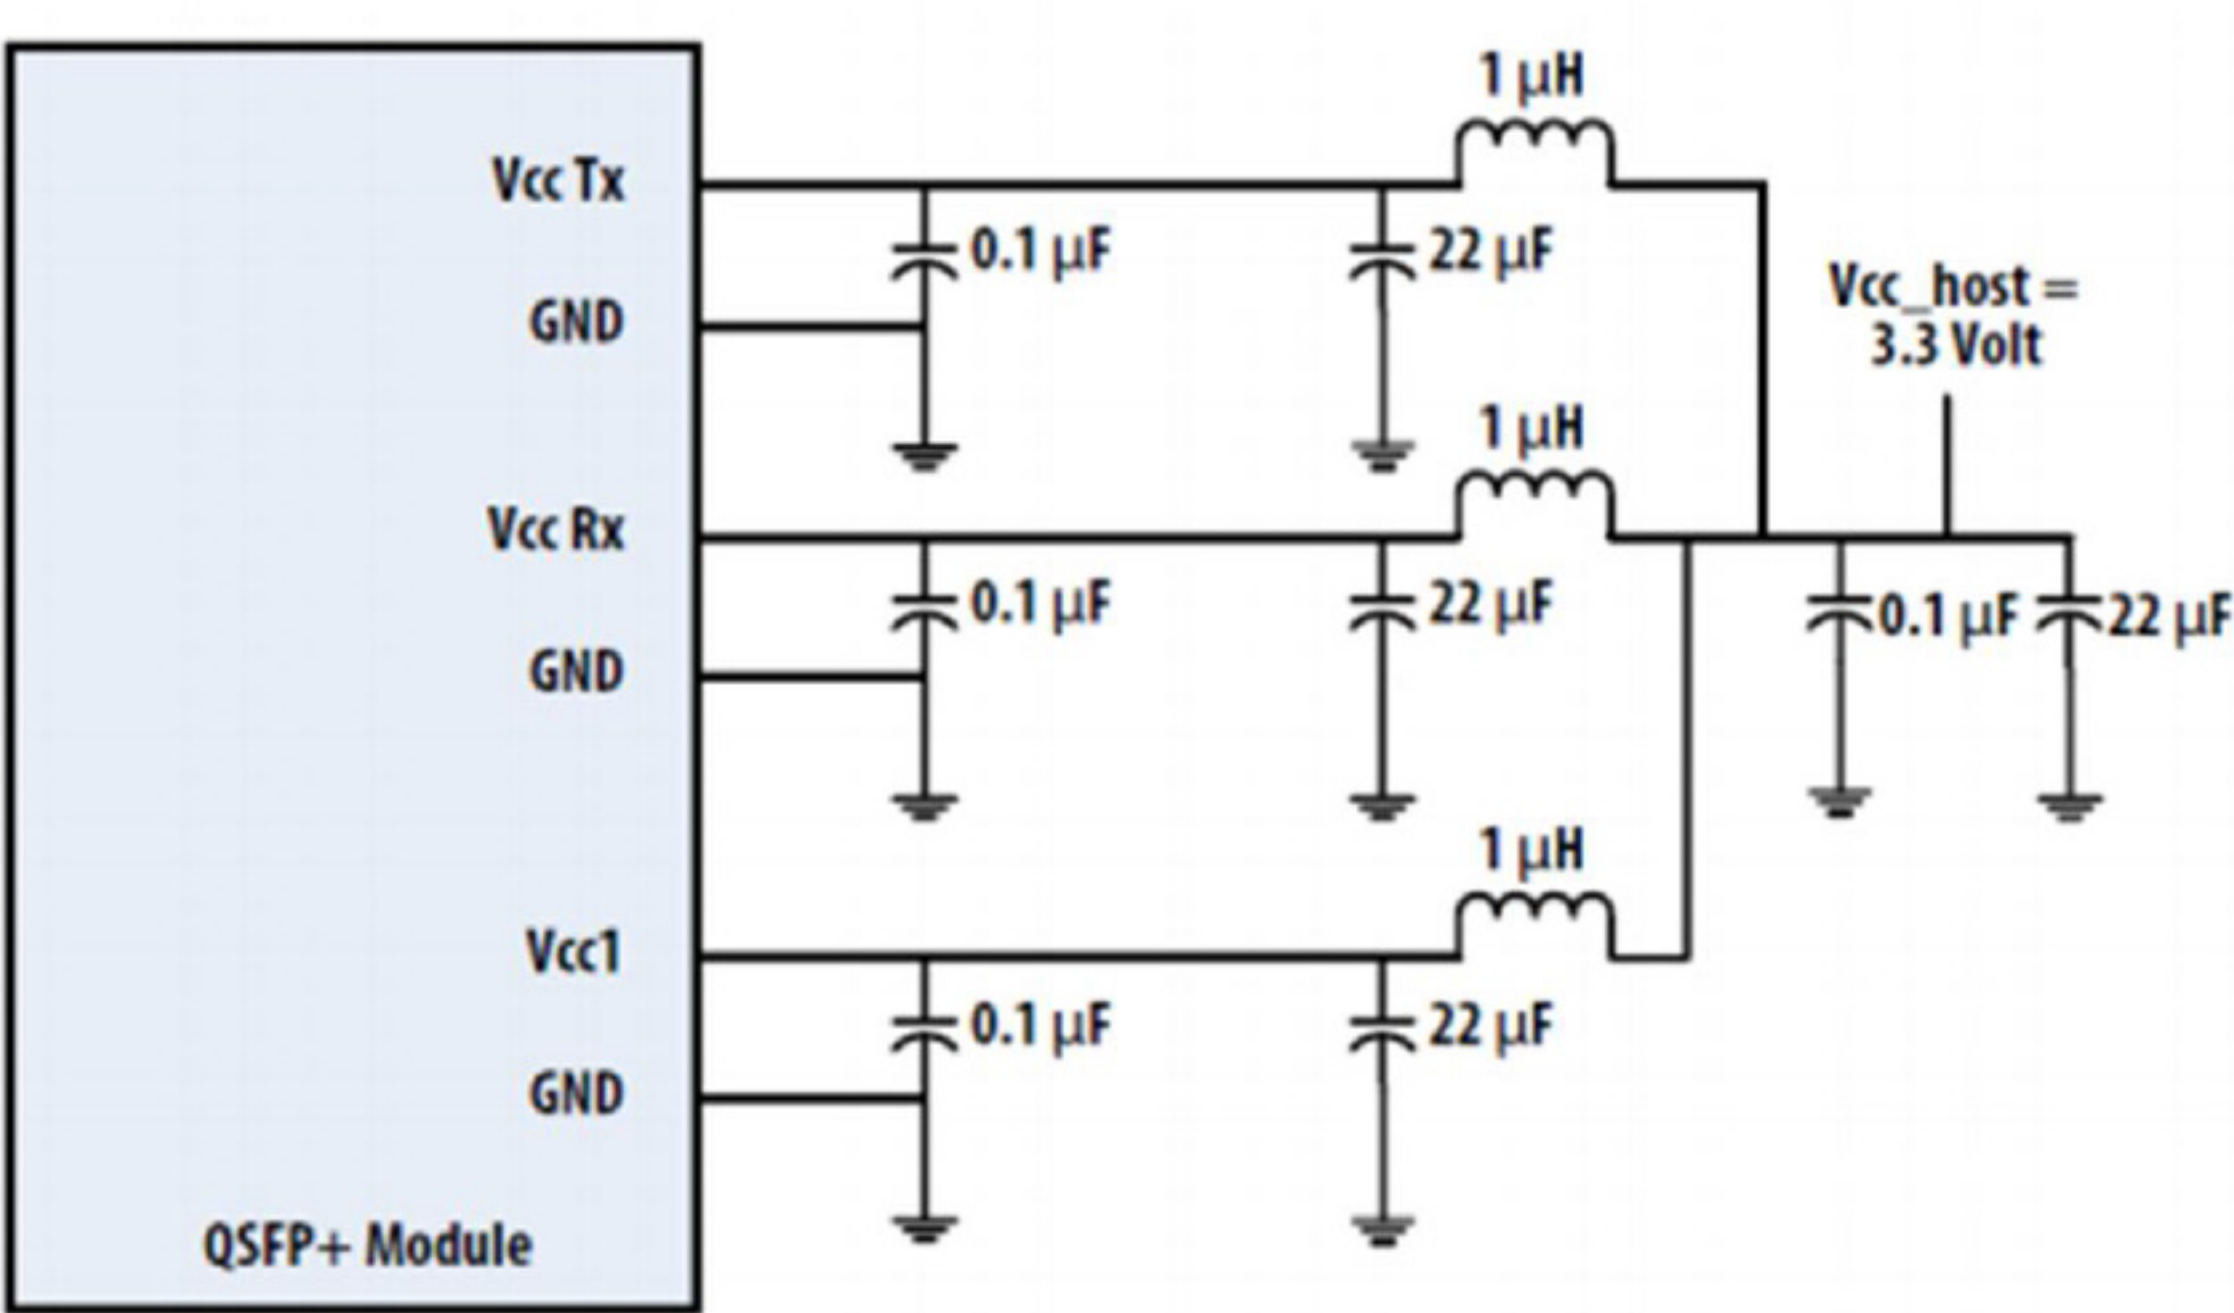

Figure4. Recommended Power Supply Filter
- 2. VccRx, Vcc1 and VccTx are the receiving and transmission power suppliers and shall be applied concurrently. Recommended host board power supply filtering is shown in Figure 4 below. Vcc Rx, Vcc1 and Vcc Tx may be internally connected within the module in any combination. The connector pins are each rated for a maximum current of 1000mA.